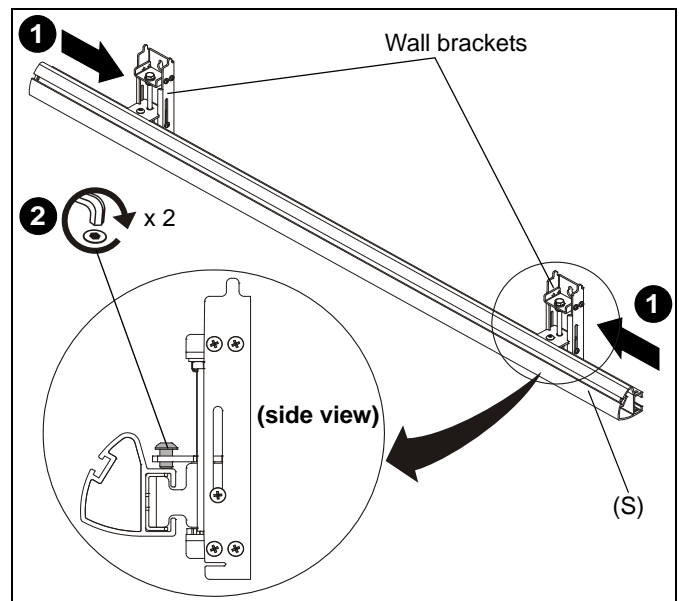

Figure 2
1. Slide wall brackets along wall assembly (S). (See Figure 2)
2. Tighten button head cap screw on each wall bracket to secure wall brackets to wall assembly. (See Figure 2)